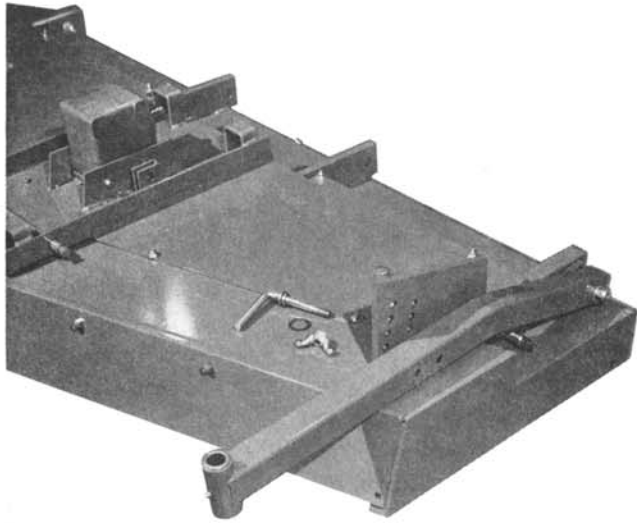

fig 7
8. Install the caster wheel support (item 62) using the hardware removed. Fasten only the back of support at this time using bolt, (item 68) spacer (item 58) and nut (item 100). See fig 7.